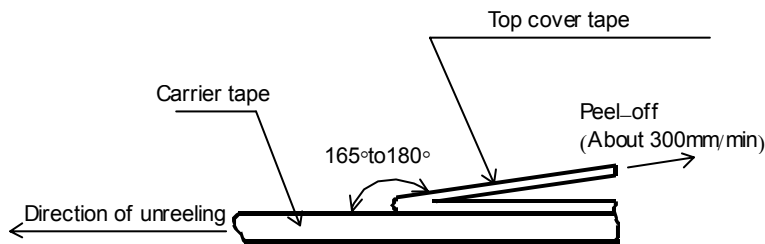
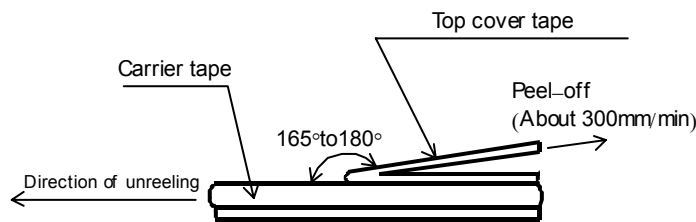
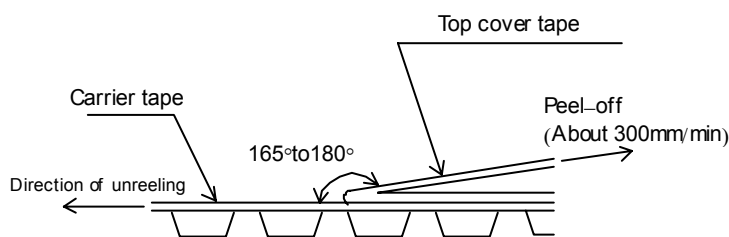

Figure-11
Figure-12
Figure-13
- 5). The peel strength of the top cover tape shall be with in 0.1N to 0.5N on the test method as shown in the following RMC1/32,1/20: Figure-11, RMC1/16S, 1/16, 1/10, 1/8: Figure-12, RMC1/4, 1/2, 1: Figure-13.